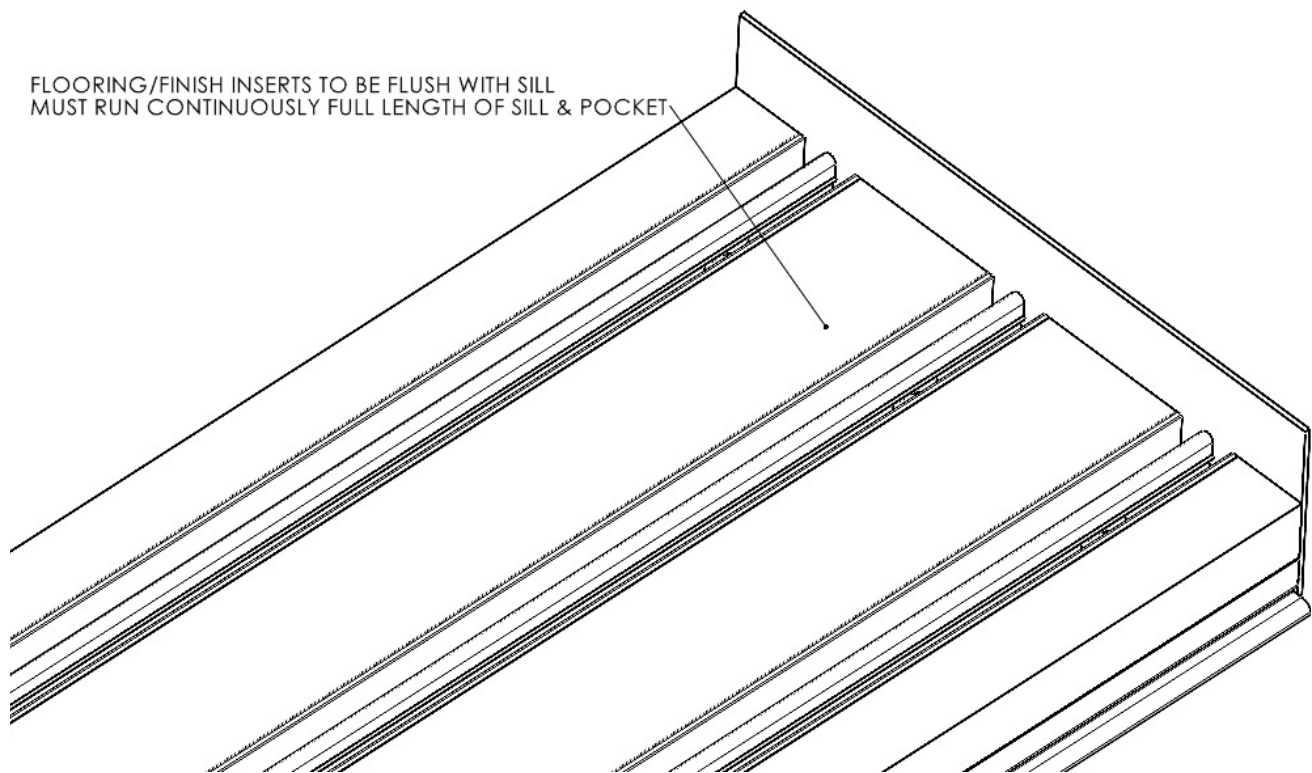

Figure 8
- No water management (sill with no weeps or drain fitting) (See Figure 8).
- 9. Sill With No Weeps** - Sill with No Weeps - Sills with no weeps or drain fitting (no water management) shall have flooring fillers flush with the top of the sill and run the length of sill and full length of pocket. (See Figure 8). Proceed to Step 10.